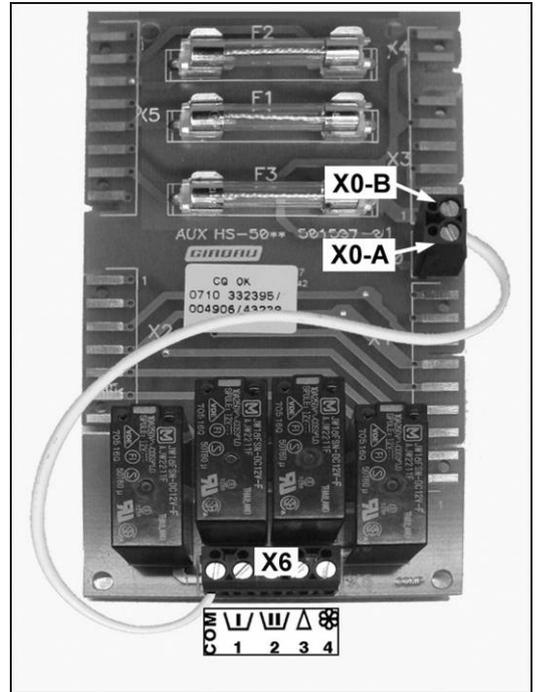

Fig. 3.14
3.5.1.d. Dosing equipment connection. RELAY CONTACTS POWERED FROM THE WASHER CONTROL CIRCUIT. (Fig. 3.14)
Dosing signals connection (Fig. 3.14)